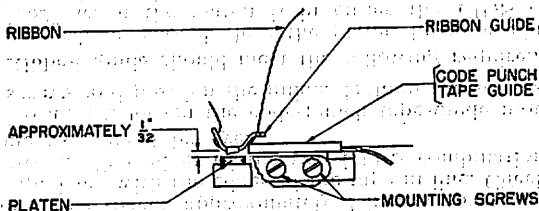

Fig. 47
2.93 **Code-Punch Tape Guide:** The tape should enter the code-punch block without buckling and a centerline through the tape code holes of the LTRS combination should be at right angles to the edges of the tape. **Fig. 47**
(a) The ribbon should clear the platen by approximately  $1/32''$  when the platen is in either the FIGS or the LTRS position. The guide should be centered over the platen. **Fig. 47**